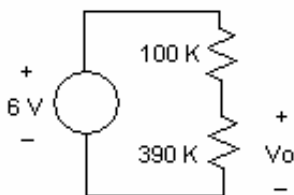
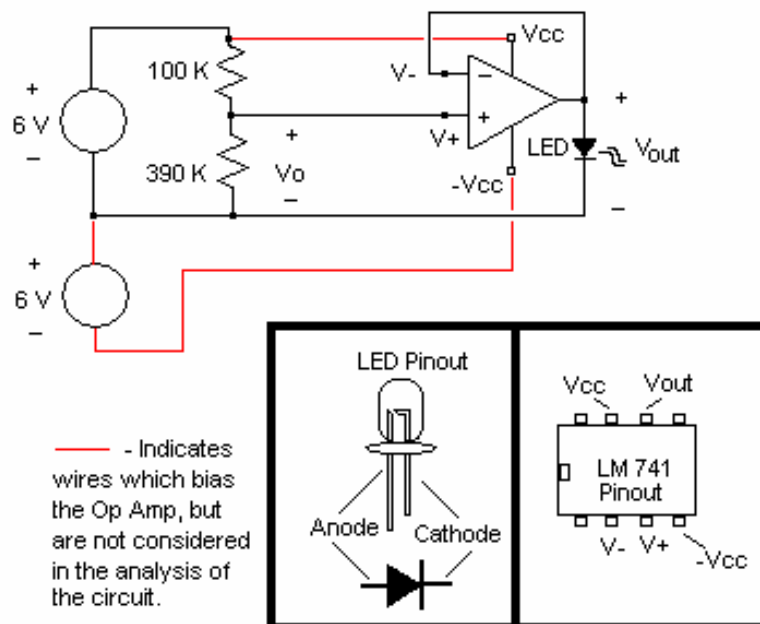

Figure 2: DC Voltage Divider
Figure 4: Voltage Follower
Connect the DC circuit shown in Figure 2. Power up the adjustable DC power supply and set it for an output voltage of 6.00 Volts. Turn ON the output of the power supply. Measure V_o , the voltage drop across the 390 k Ω resistor, using the DMM. **Record this result in Table 1.**
Insert an Op Amp into the previous network in order to produce the circuit shown in Figure 4 (note that a minus-six volt source is needed to prevent saturation).
The Op Amp circuit in Figure 4 is called a “Voltage Follower” circuit (also “buffer” or “unity gain” circuit), denoted by the unity feedback loop to the inverting input (i.e. v_{Out} is short-circuited to v_-). Similarly to the lab with the transistor, a voltage follower is useful when the same voltage is needed with a greater amount of current (and therefore power, too). As stated in the background, the theoretical difference between v_- and v_+ is zero. Thus, since there is a direct connection between v_- and v_{Out} , the positive input voltage would also be equal to v_{Out} . Lastly, since the positive input voltage is directly connected above the 390 k Ω resistor, this produces $v_o \approx v_{Out}$.
Compare V_o for Figure 4 with V_o for Figures 2 and 3.
2. What is the maximum output voltage of the Op-Amp? Given this value and the calculated resistance of the LED, what is the maximum output current of the Op-Amp for Figure 4?
Table 1: Measurement for Figure 2
Table 4: Measurements for Figure 4